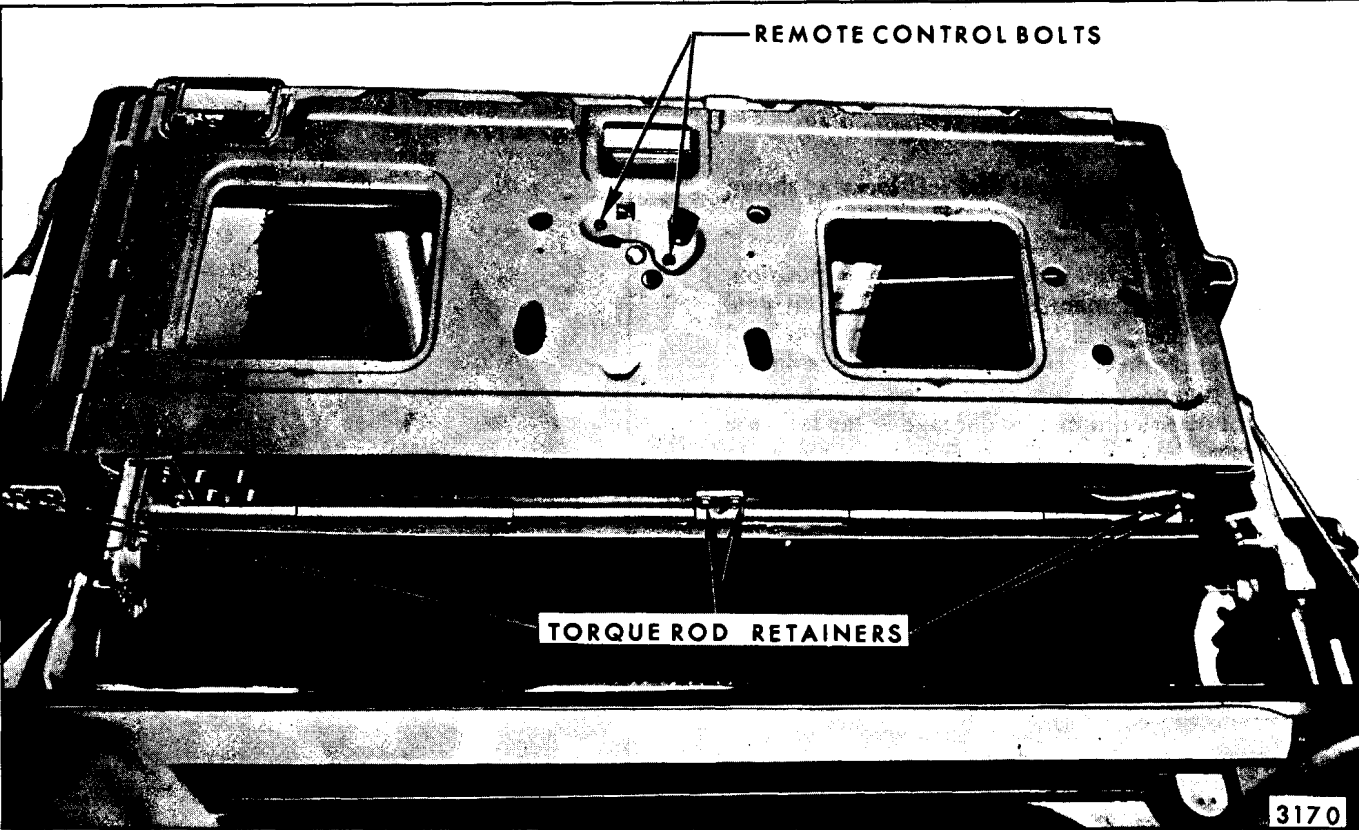

Fig. 9-45-Dual Acting Tail Gate Torque Rod Retention
4. Remove remote control to tail gate inner panel attaching bolts (Fig. 9-45).